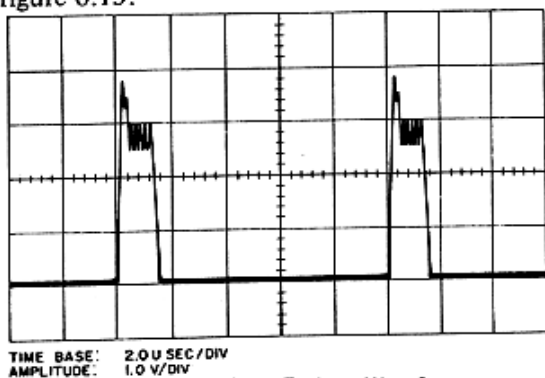

Figure 6.13 – Q17, Emitter Waveform
g. Reconnect oscilloscope to emitter of keyed oscillator Q17 (or left end of R51). The observed 100 kHz waveform should resemble the one shown in figure 6.13.